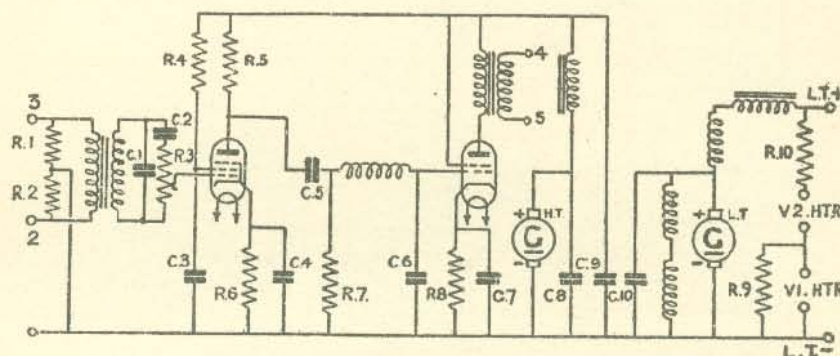

FIG. 97.—Circuit diagram I/C amplifier 3611.
6. **Intercommunication Amplifier 3611** (fig. 97).—The amplifier is a two stage high gain unit employing a pentode (6SK7), R.C. coupled to a beam tetrode (6V6). The power output is 3 watts at 1,000 cycles and may be worked into loads of 60 to 600 ohms. An internally mounted M.G. giving supplies of 230 volts at 60 mA for H.T. Both valves are cathode biased. The volume control is in the grid circuit of the first stage, and the "on/off" switch is situated in the transmitter remote control unit.